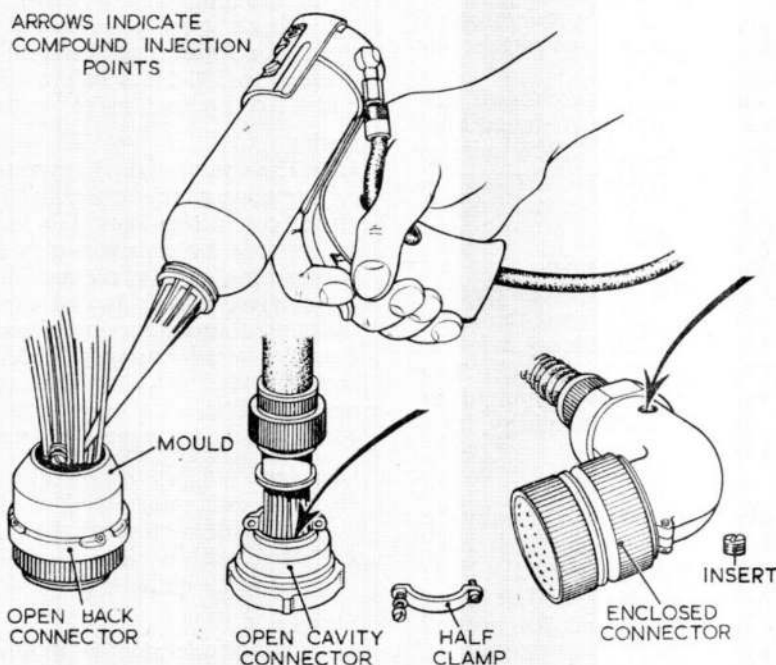

Fig. 1. Methods of injecting compound
5. The potting of three typical connectors is illustrated in fig. 1 as follows :—
10. The mixed compound can usually be poured into the connector but a polythene pressure gun (Admy. Patt. No. B11H (0278) 18363) can be used if necessary. The  $\frac{1}{16}$  in. nozzle is the recommended size for normal operations. The connector to be potted should be laid on a flat surface and the compound injected as described in para. 5 and shown in fig. 1.